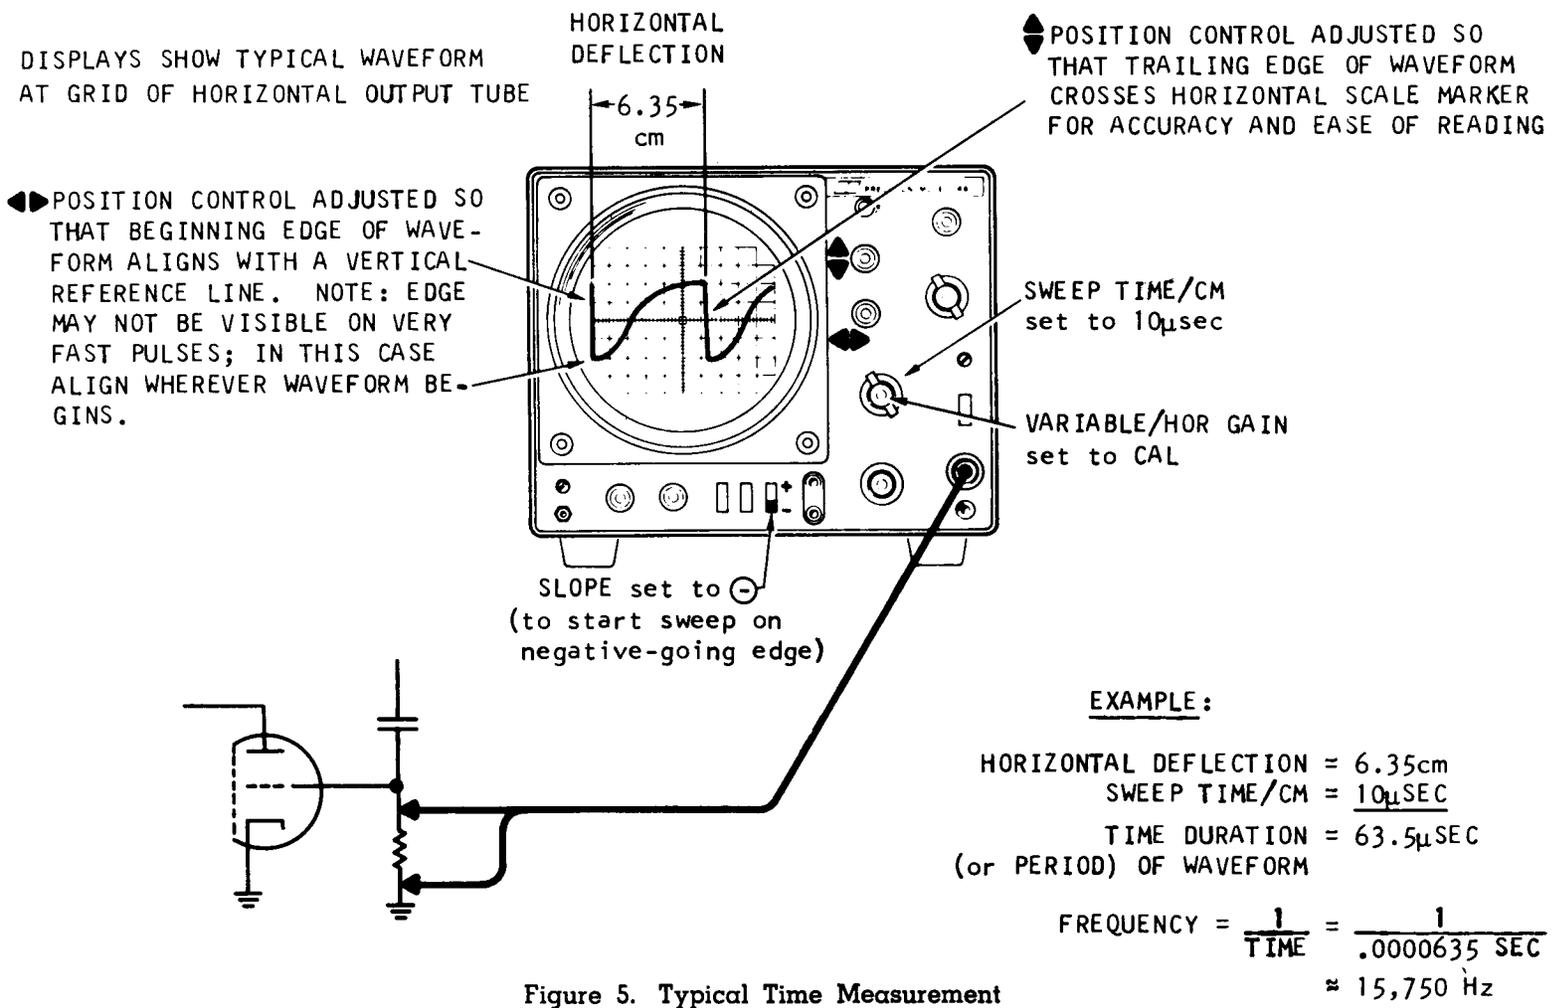

Figure 5. Typical Time Measurement
6. Calculate the time duration as follows: Multiply the horizontal deflection (in cm) by the SWEEP TIME/CM control 8 setting (see example in Figure 5). Remember, when the 5X magnification is used, the result must be divided by 5 to obtain the actual time duration.